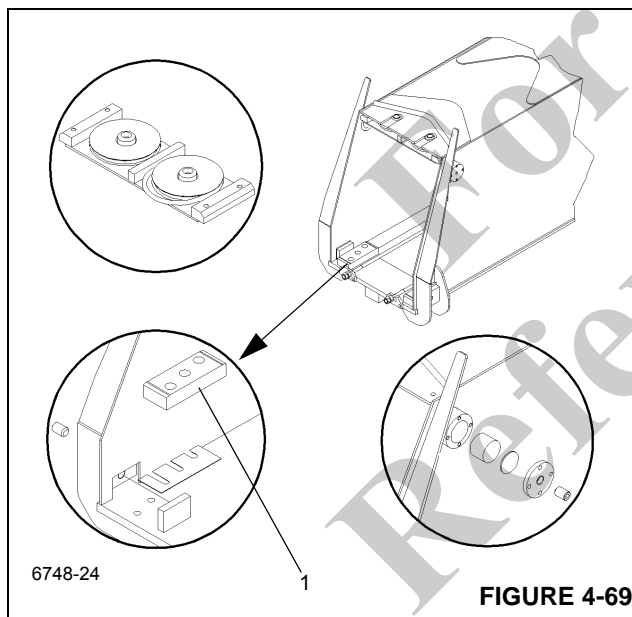

FIGURE 4-69
14. Install the brass wear pad (Figure 4-69, 1) at the nose end of the Inner Mid section.